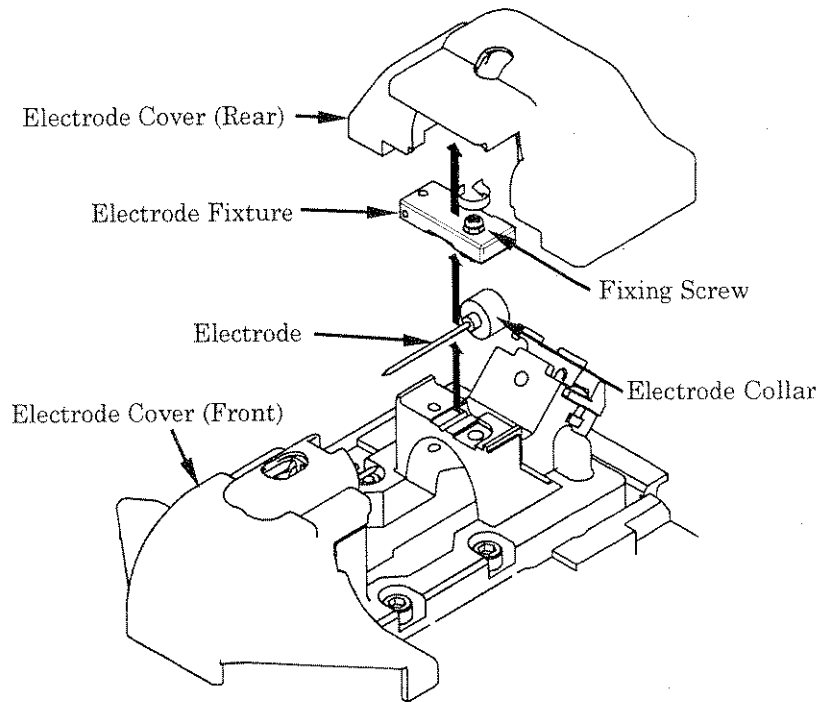

Fig. 5-9. Replacing Electrodes
- (1) Execute [Electrode Replacement] in [Maintenance Menu].
- (2) Instruction messages will appear on the screen to turn off the power. Press and hold **◀ON/OFF▶** till the LED color changes from green to red.
- (3) Remove the old electrodes. For the method of replacement, refer to Fig. 5-9.
- (4) Clean the new electrodes with alcohol-impregnated clean gauze or lint-free tissue and install them to the splicer.